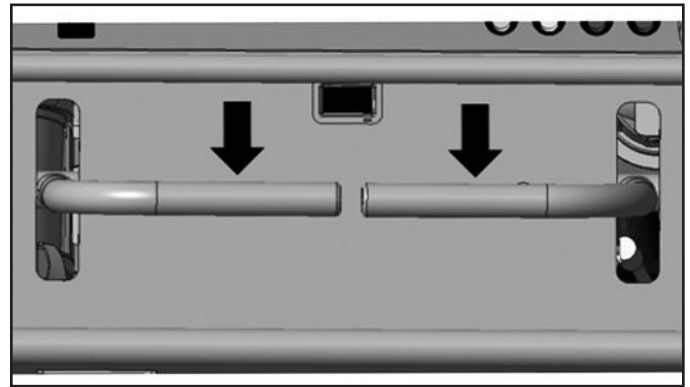

Figure 5: Pull back for reverse
9. Using the grip controls, slowly & simultaneously pull both controls back slowly and together to back the ABI Force off the shipping crate. Ensure that there are no obstacles or people behind and that the mid-mount attachment system fully clear. It may be beneficial to use the crating material as a ramp to ease the unit off the skid. Watch out for nails or screws. Use **Figure 5** for reference.